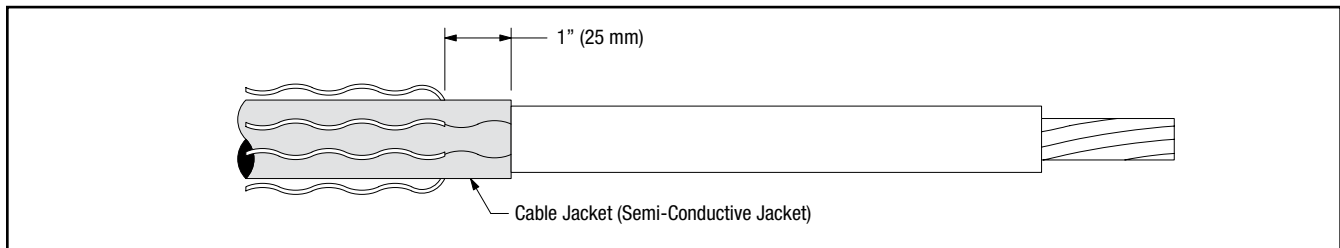

Figure 18
14.7 Bend drain wires back over cable jacket (*Figure 18*).